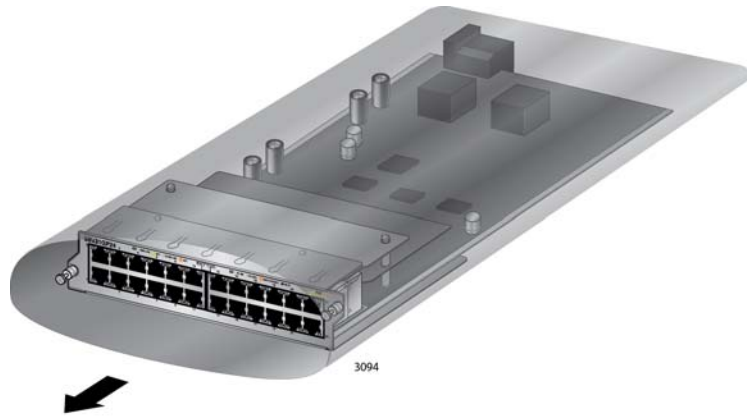

Figure 92. Removing an Ethernet Line Card from an Anti-static Bag
3. Carefully remove the Ethernet line card from the anti-static bag. Refer to Figure 92 on page 151.